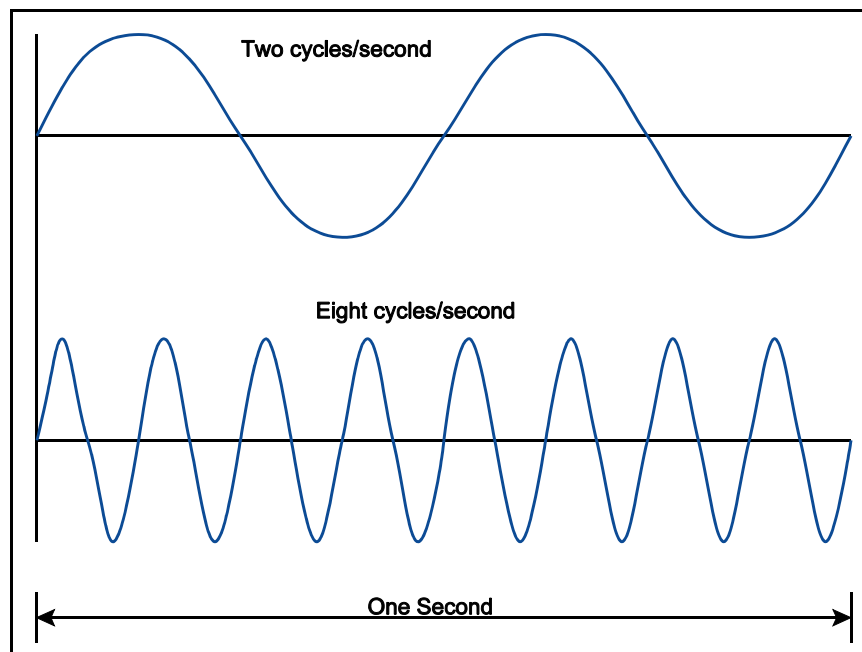

Figure 11.4 Frequency Comparison
Several terms are used to describe alternating current, illustrated in Figure 11.4 some of these terms are explained below:
- Cycle. A cycle is one complete series of values, e.g. the graph of Figure 11.4.